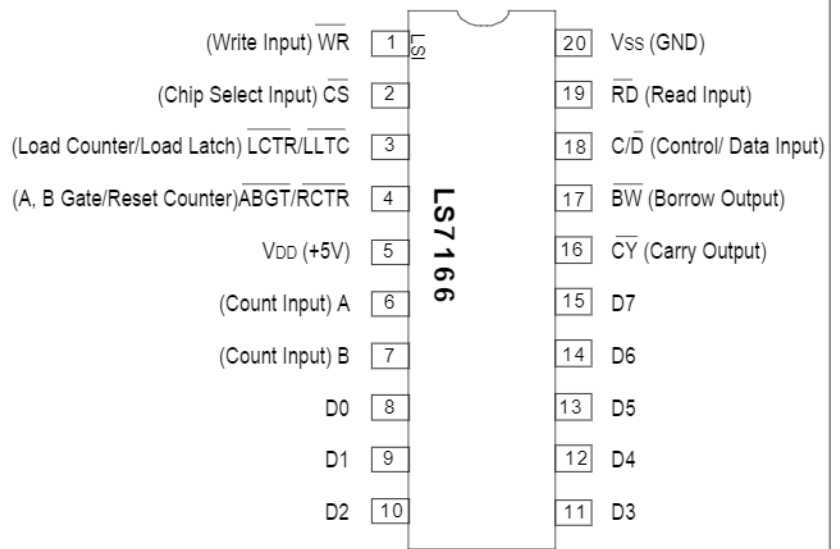

FIGURE 1
- LS7166 (DIP); LS7166-S (SOIC); LS7166-TS24 (24-Pin TSSOP)* - See Fig. 1